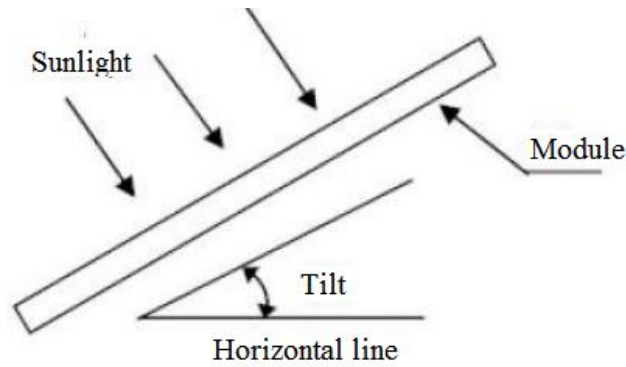

Figure 2 PV module tilt angle
5.1.6 The tilt angle of the PV module is measured between the surface of the PV module and a horizontal ground surface (as shows in Figure 2). The PV module generates maximum output power when it faces the sun vertical. If you want the specific information of best install tilt angle, please consult the local authoritative solar system construction company.